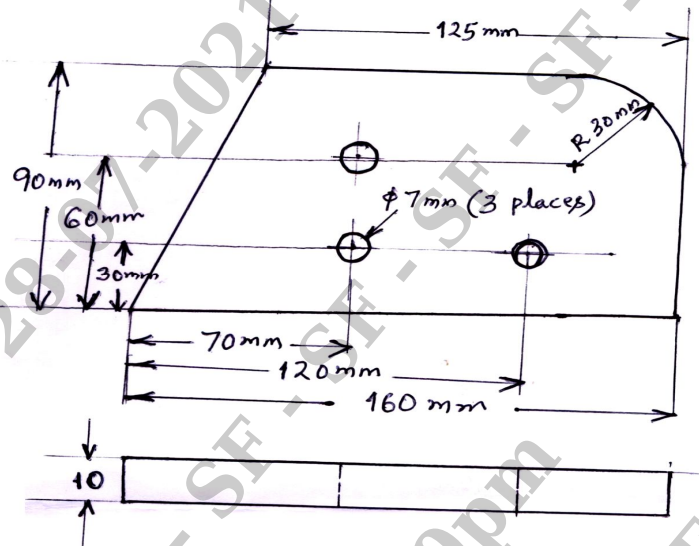

Fig. Q10(b) : A simple part depicting drilling operation
- b. Write an NC part program for the part shown in Fig. Q10(b) depicting drilling operation. (08 Marks)